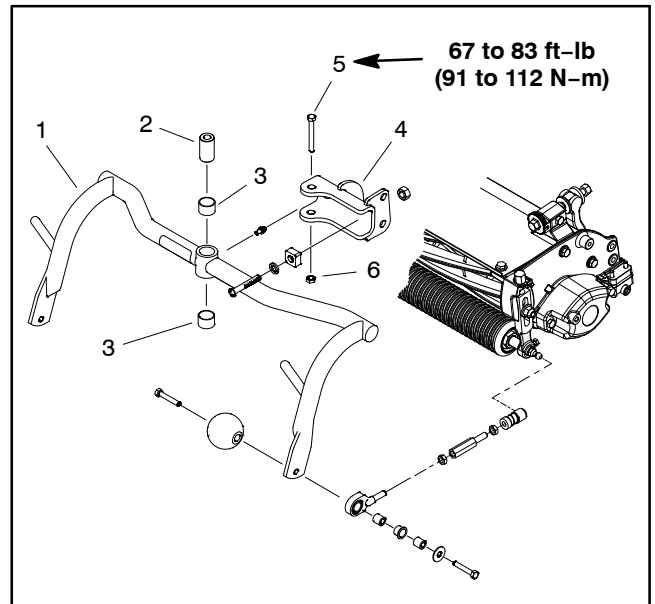

Figure 12
B. If pull frame (item 1 in Fig. 12) was removed from clevis on lift frame, torque cap screw from **67 to 83 ft-lb (91 to 112 N-m)**.